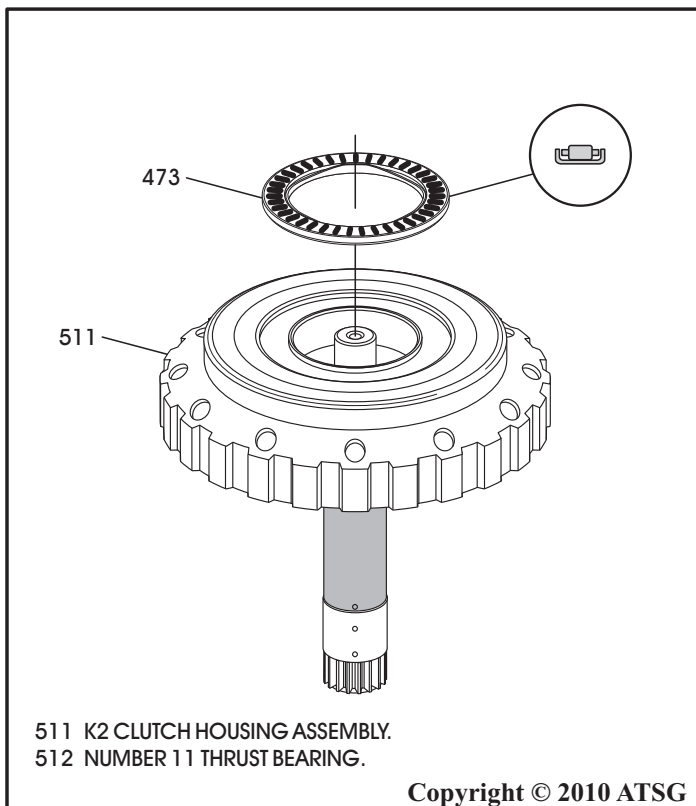

Figure 126
5. Turn the K2 clutch housing assembly over and install the number 11 thrust bearing, as shown in Figure 126, with the needles facing up.